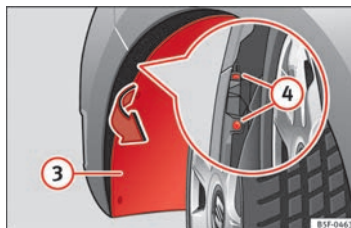

Fig. 194 Fog light: access to the connector and to the light bulb holder.
- Pull the wheel housing (3) ⇒ Fig. 194 access the 2 hidden screws (4) ⇒ Fig. 194 of the bumper.